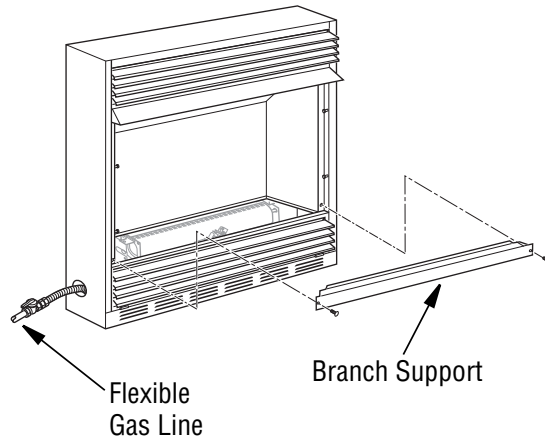

Figure 23 - Removing Branch Support From Fireplace
1. Remove screws that attach branch support to fireplace (see **Figure 23**). Carefully lift up branch support and remove from fireplace (see **Figure 23**).
NOTICE: Most building codes do not permit concealed gas connections. A flexible gas line is provided to allow accessibility from the fireplace (see **Figure 23). The flexible gas supply line connection to the equipment shutoff valve should be accessible.**